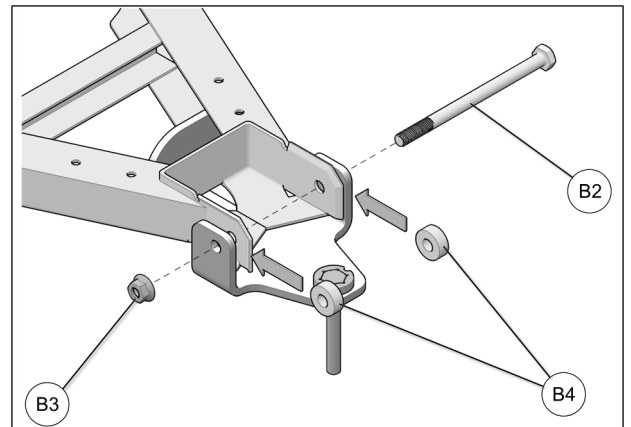

Fig. 8
7. Install shims (**B4**) between anchor bracket and suspension arm as illustrated below. Insert the new M10x150 mm bolt (**B2**) in the anchor bracket, through the shims (**B4**), lower suspension arm and wheel hub. Secure assembly using the new M10 nut (**B3**) provided. Tighten bolt to 50 N•m [37 lb•ft]. See Fig. 8